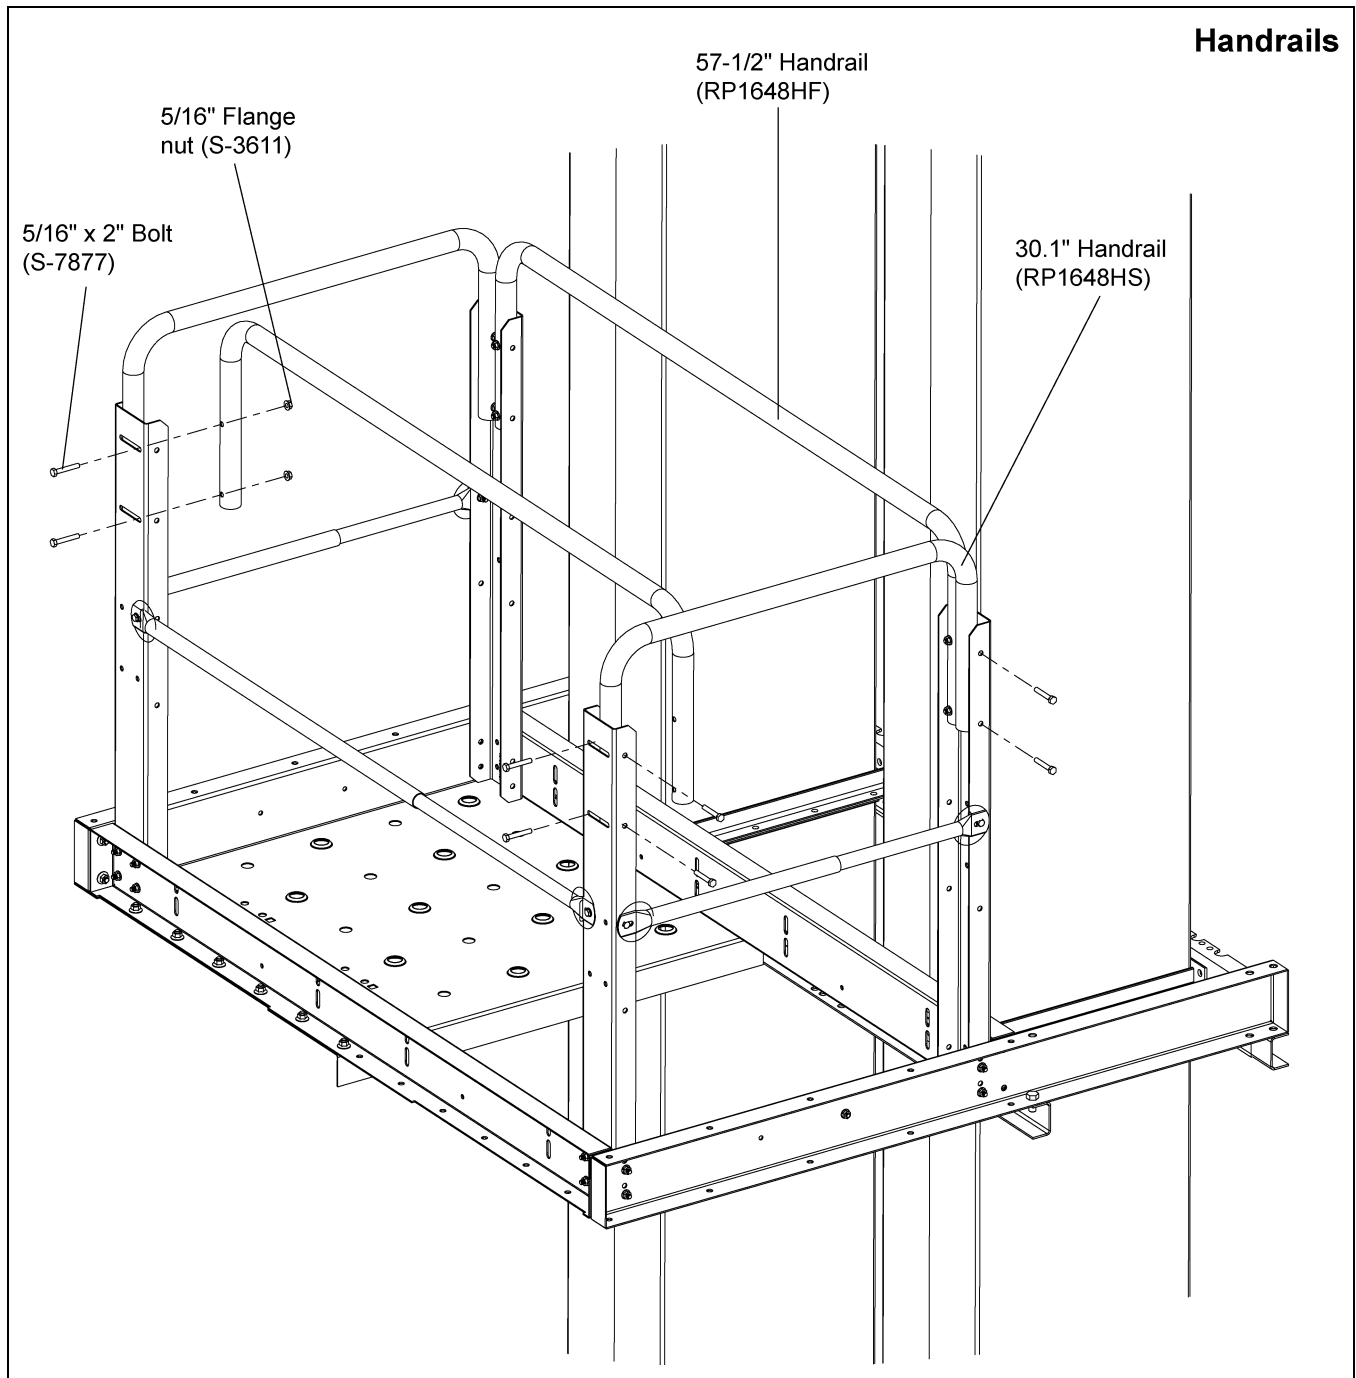

Figure 7K
7. Connect the front rest platform handrails and the side rest platform handrails to the handrail platform post using 5/16" x 2" hex bolts. (See Figure 7K.)